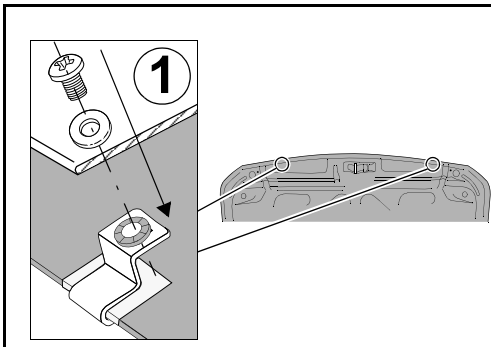

Figure 9. Securing Hood Protector
9. Loosely secure the center of hood protector to metal clip with the small screw and washer provided, as shown in Figure 9.
It may be necessary to slightly slide the center clip left to right to align the threaded hole with the Hood Protector hole (see Fig 9).